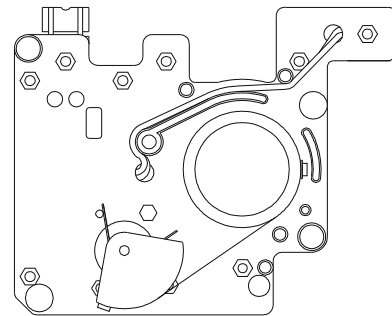

FIGURE 3. Bottom View of Carrier Plate Assembly Showing Shaft and Potentiometer in Mid Travel, Ready to be Fitted to Actuator in Mid Travel.
3.1.5 Observe the range of motion available to the positioner shaft, limited by the correct running of the potentiometer quadrant wheel, driven by the stainless steel strap (see Figure 3). Fit the carrier plate/shaft assembly back into the positioner box with the shaft near mid-range, “feeling” the female square in the positioner shaft onto the male actuator square while maintaining its position near mid range. It is essential that the two shafts are correctly oriented relative to each other, since if they are 90 degrees out, the quadrant wheel can be forced too far and damage done to the drive mechanism during subsequent actuator movements. It is possible to fit the positioner correctly with the actuator square at one end of its travel, but experience indicates a high probability of mistaking the direction of movement of the actuator – hence it is strongly advised that the positioner be fitted with the actuator square at the mid-travel position, where there is no ambiguity possible.